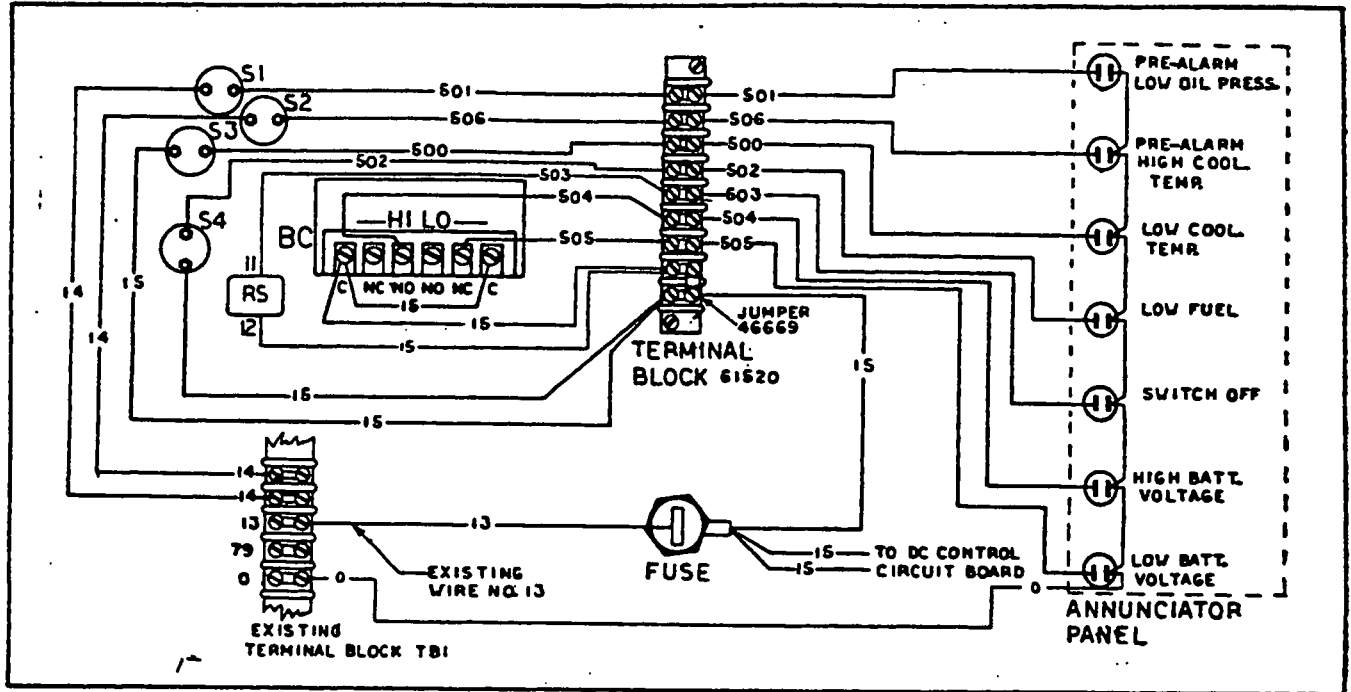

Figure 3.8-B. Optional Annunciator Panel Wiring Diagram
**3.8.4- LOW COOLANT TEMPERATURE ADVISORY LIGHT** (Figure 3.8-A, 3.8-B)
**3.8.5- LOW FUEL ADVISORY LIGHT** (Figure 3.8-A, 3.8-B)